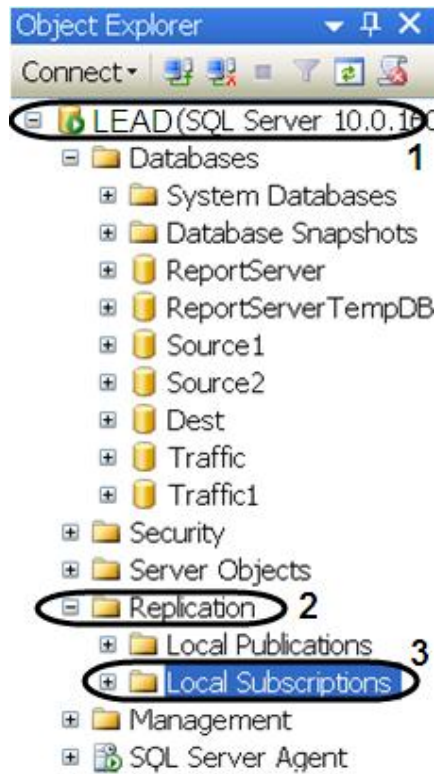

Fig. 9.3-12 Creating a new subscriber
3. Run the «Microsoft Sql Server Management Studio» utility and after connection to the subscription server open the server's node (Fig. 9.3-12, 1).
4. Open the «Replication» folder (Fig. 9.3-12, 2) and then make a right click upon the «Local Subscriptions» folder (Fig. 9.3-12, 3).